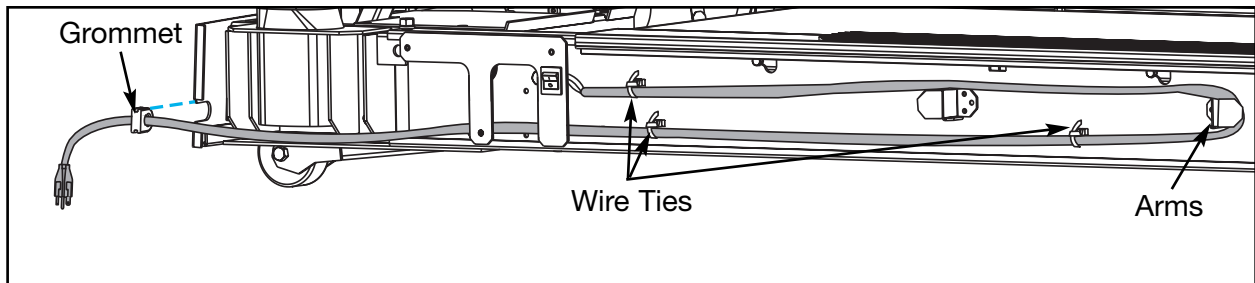

Figure 10
- b. Slide the grommet into the front exit hole with the curved end first. See Figure 10.